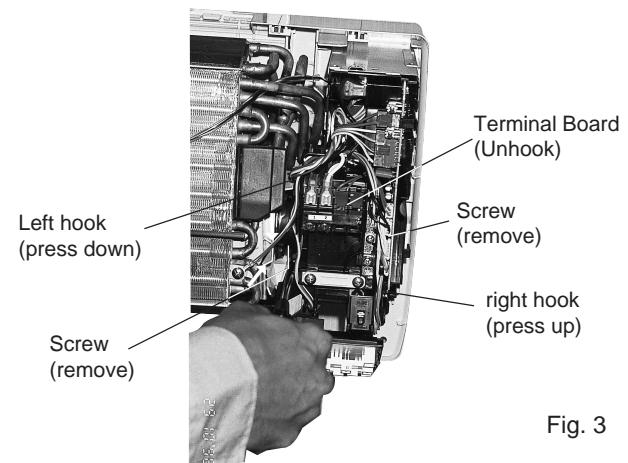

Fig. 3
- Unhook and release the terminal board.(Fig. 3)
- Remove the right and left screws.(Fig. 3)
- Then remove the control board by pressing down the hook at the left and press up the right hook. (Fig. 3)